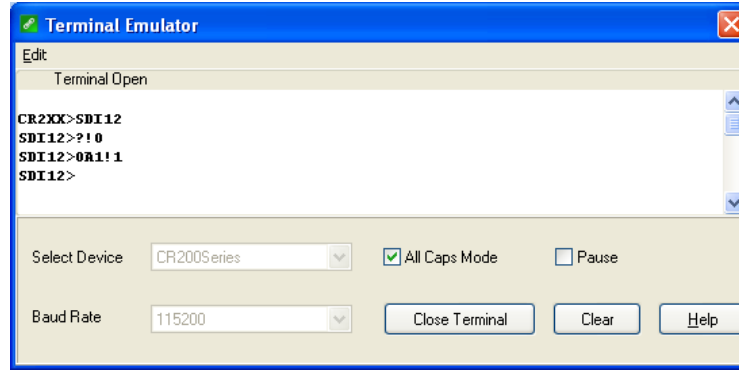

FIGURE D-1. CR200(X) example of using the SDI-12 transparent mode to change the SDI-12 address from 0 to 1
D.2.1 CR200(X) Series Datalogger Example
6. To change the SDI-12 address, key in *aAb!* <enter>, where *a* is the current address from the above step and *b* is the new address (see FIGURE D-1). The OBS501 will change its address and the datalogger will respond with the new address. To exit SDI-12 transparent mode select the **Close Terminal** button.